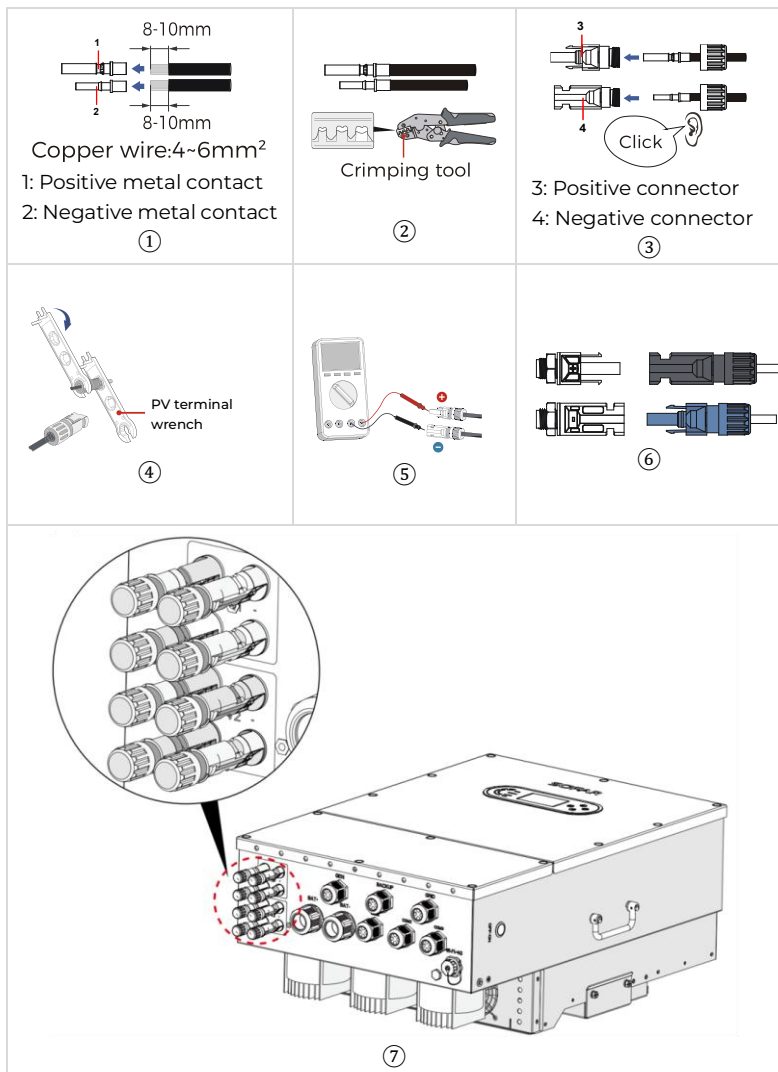

Figure 5-3 Connect PV
Step 2 Remove the insulation layer with an appropriate length from the positive and negative power cables by using a wire stripper as show in Figure 5-3①.
Step 3 Insert the stripped positive and negative power cables into the positive and negative metal terminals respectively and crimp them using a crimping tool. Ensure that the cables are crimped until they cannot be pulled out by force less than 400 N, as shown in Figure 5-3②.
Step 4 Insert crimped power cables into corresponding housings until you hear a "click" sound. The power cables snap into place, as shown in Figure 5-3③.
Step 5 Reinstall cable glands on positive and negative connectors and rotate them against the insulation covers, as shown in Figure 5-3④.
Step 6 Use the multi-meter, measure the PV port voltage U_{oc} , and then make the connection with the inverter to prevent live operation, as shown in Figure 5-3⑤
Step 7 Insert the positive and negative connectors into corresponding PV terminals of the inverter until you hear a "click" sound, as shown in Figure 5-3⑥⑦.